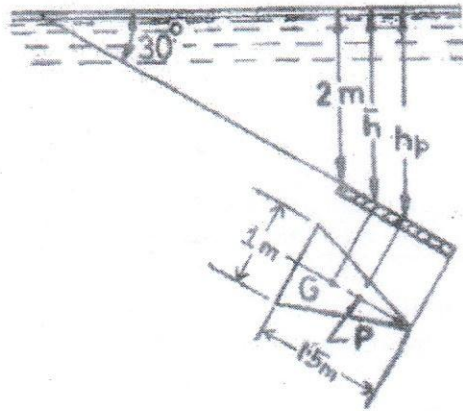

Figure 3
- (c) A triangular plate of 1 m base and 1.5 m altitude is immersed in water as shown in Figure 3. The plane of the plate is inclined at 30° with the free surface of water and the base is parallel to and at a depth of 2 m from the free surface. Find the total pressure force on the plate and the position of the center of pressure. (10)